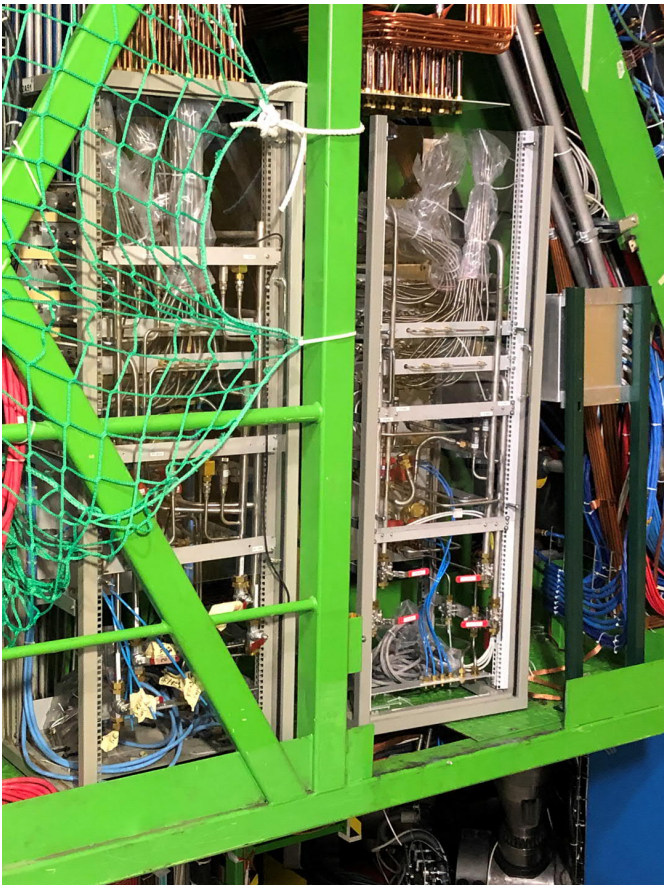

Fig1
- **1:** disconnect the rack on the balcony, extraction of the rack with the crane, transport to the workshop.(Fig1)